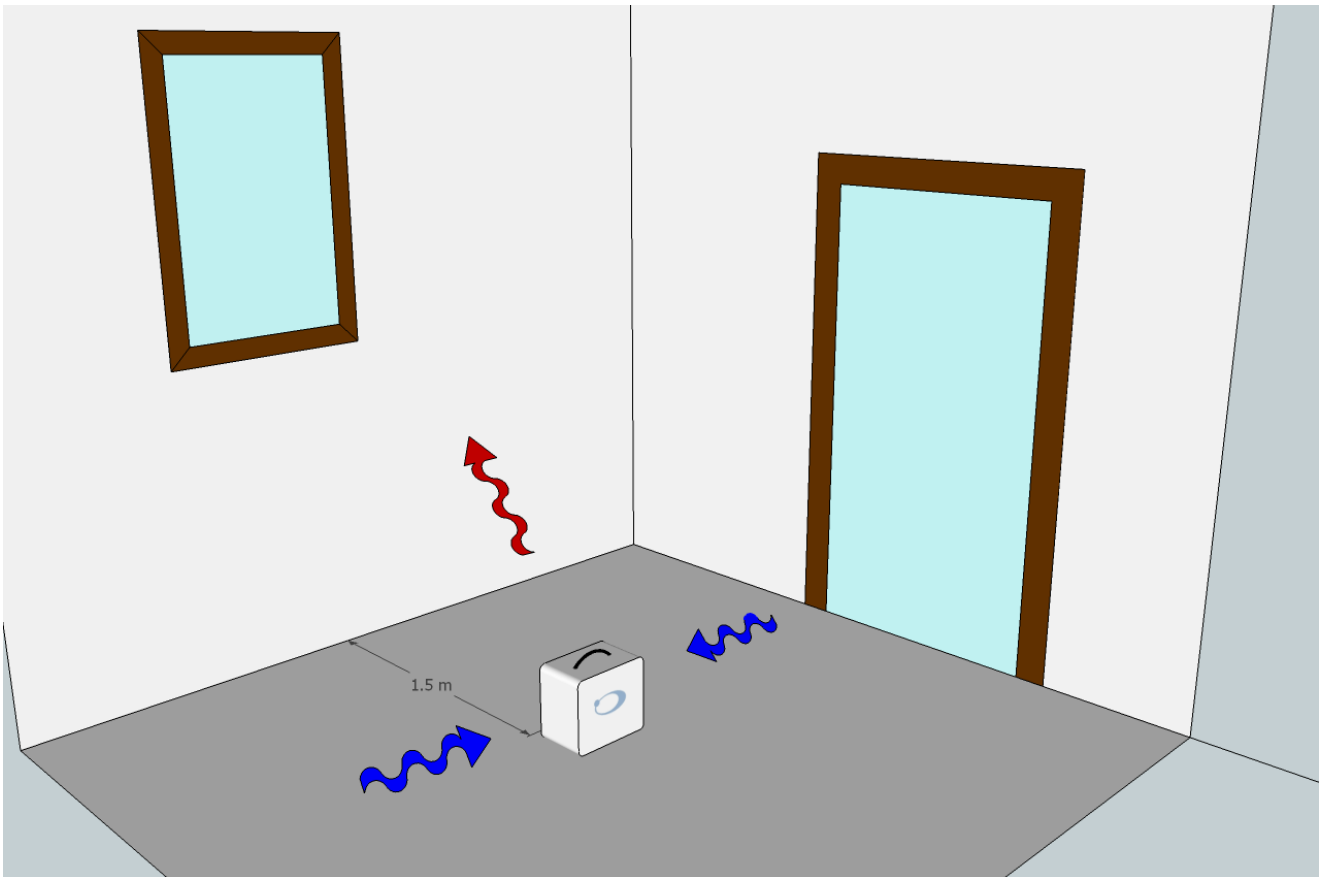

Fig.1: ideal placement of GreenBox with best flow configuration (input fresh air in blue and output hot flow in red)
- **Please operate in vented indoor room or with open windows** and flowing fresh air (as illustrated in Fig.1, Fig. 2 and Fig.3)